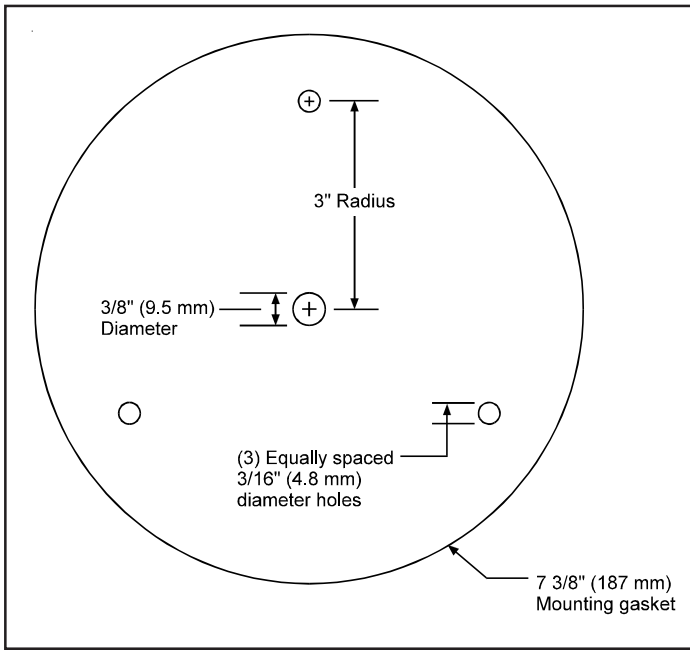

Figure 3. Mounting Gasket for Direct Surface Mounting of 97 Series Signals
- a. Remove the three outer knockouts from the bottom of the signal base. The location of the knockouts corresponds to the three outer holes in the gasket provided in the direct mounting hardware kit shown in Figure 3.
- b. Place the 7 3/8" (187 mm) mounting gasket on the mounting surface and mark the center of the four holes in the gasket on the surface. Refer to Figure 3. Remove the mounting gasket and drill a 3/8" (9.5 mm) hole at each of the marked positions.